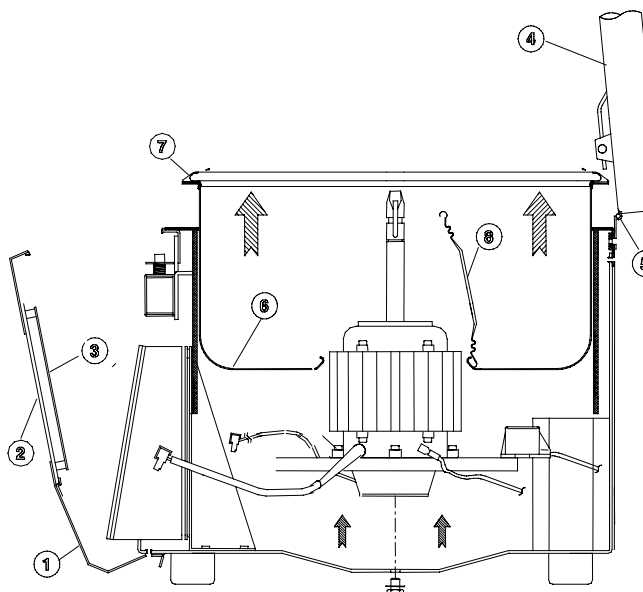

Fig. 19
| See Fig. 19 | | | |
| Fig 19 - ① | 89000838 | Mains switch | 1 |
| Fig 19 - ② | 39903281 | Keypad membrane CL30 | 1 |
| Fig 19 - ② | 39903283 | Keypad membrane CL31 | 1 |
| Fig 19 - ③ | 89002890 | Display board | 1 |
| Fig 19 - ④ | 11250217 | Lid Assy | 1 |
| Fig 19 - ⑤ | 11200717 | Lid hinge | 1 |
| Fig 19 - ⑥ | 89002039 | Centrifugation bowl chamber | 1 |
| Fig 19 - ⑦ | 89000943 | Bowl gasket | 1 |
| Fig 19 - ⑧ | 89000839 | Bowl-Motor gasket | 1 |